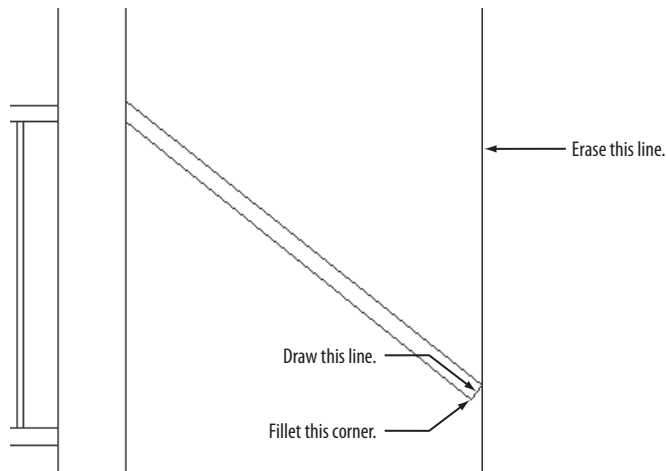

FIGURE 10.30: Finishing the stair rail
12. Extend the lower line only to the post on the left, as shown in Figure 10.30.
14. Erase the vertical line that extends from the floor plan (as shown previously in Figure 10.30).